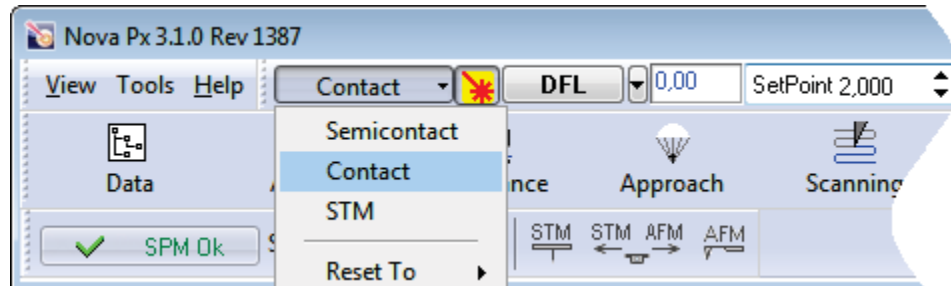

Fig. 13-22. Selecting controller configuration
1. Select **Contact** in the drop-down list of controller configurations of the Nova Px program (Fig. 13-22).